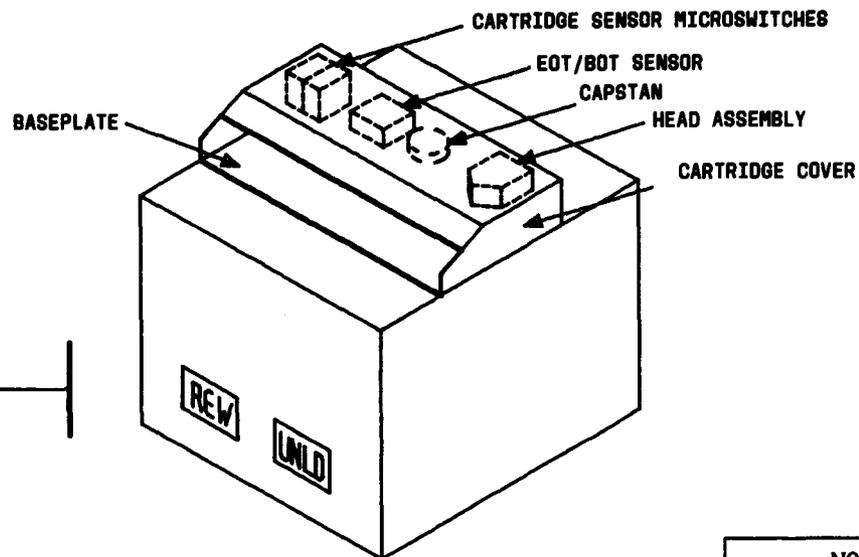

FIG. 1
- [3] Read CAUTION. Carefully clean head and baseplate assembly, EOT/BOT sensors, and cartridge sensor microswitches [FIG. 1]